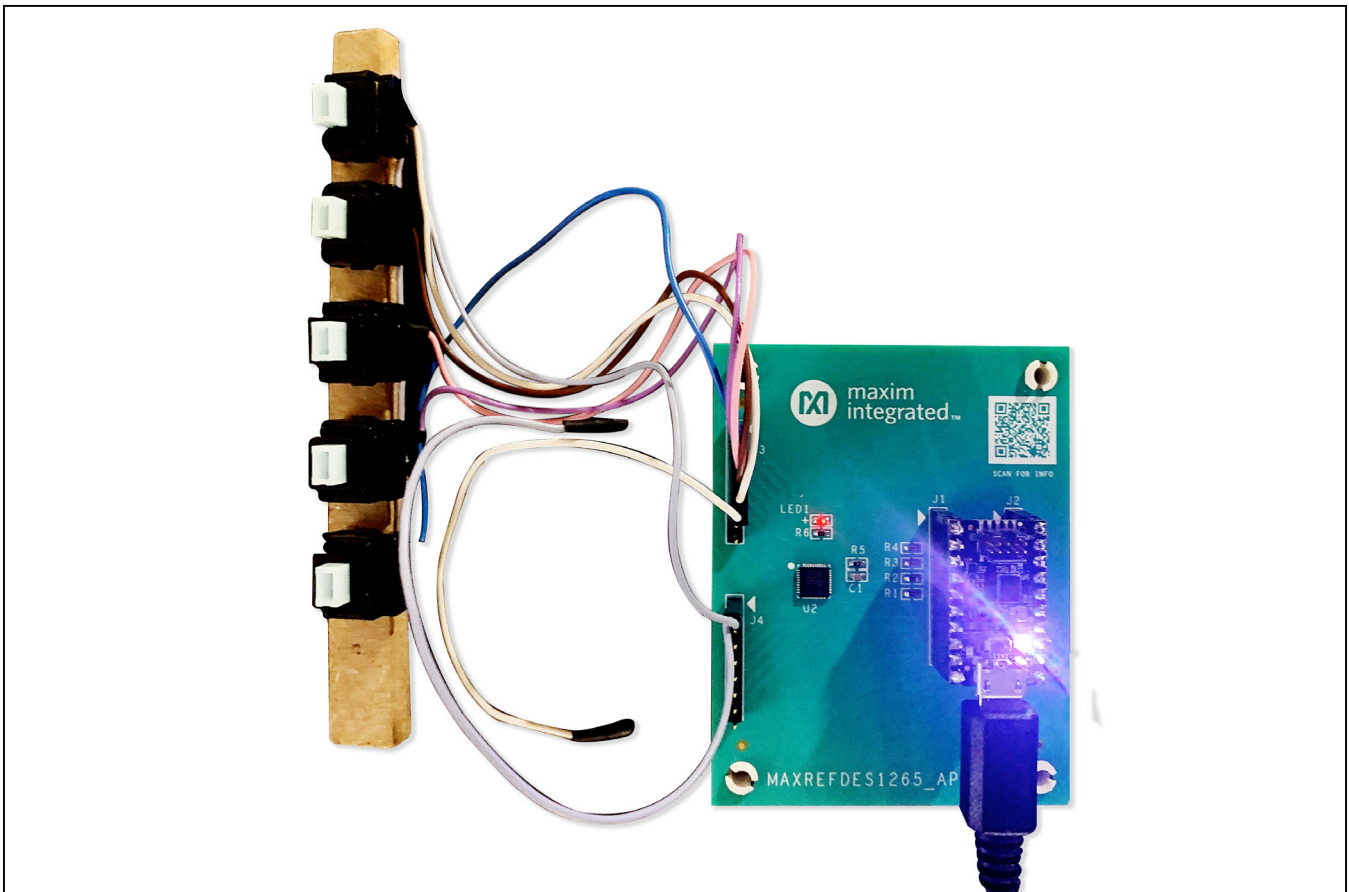

Figure 1. The MAXREFDES1265 connected to the keypad switches.
This document describes the hardware in Figure 1. It provides a detailed, systematic technical guide to use the small-size, low-cost, keypad interface design. The design was built and tested. The details follow in this document.
Figure 1 shows the hardware connections of the following components:
- Connect the keypad to the row (J3) and column (J4) pinout headers of the MAXREFDES1265 (**Figure 1**).